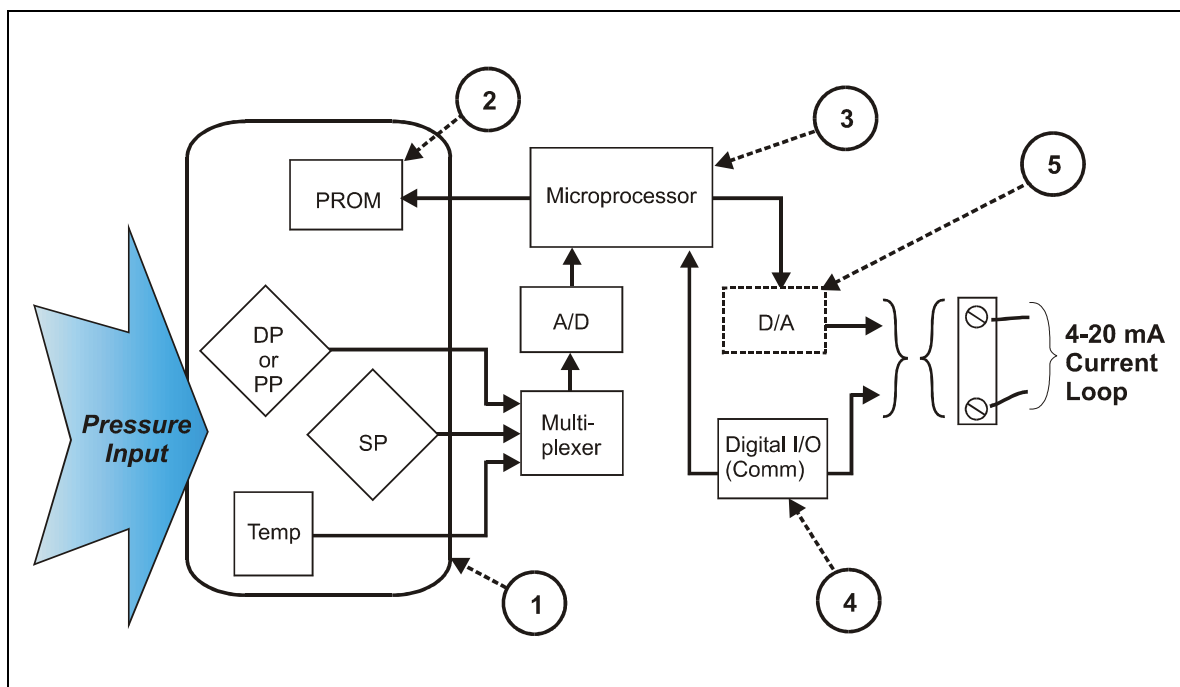
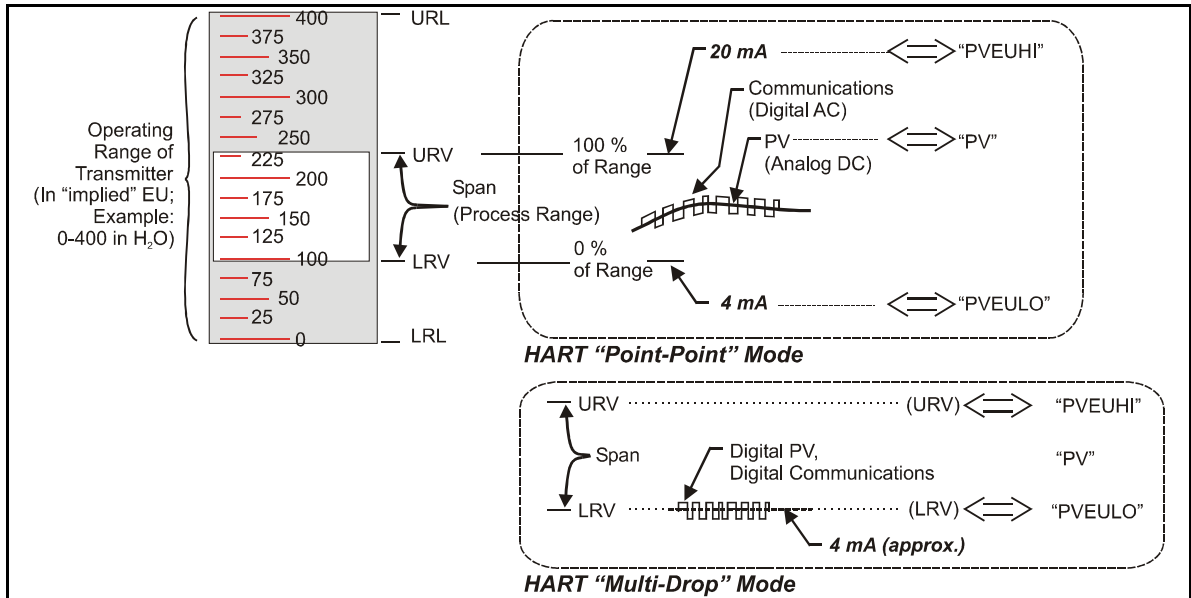

Figure 3 Honeywell ST 3000 Smart Transmitter - Analog mode
Figure 7 HART Point-point and Multi-Drop Value Scaling
The characteristics of a typical Honeywell Smart Pressure Transmitter are summarized in Figure 3 through Figure 7, following.
As indicated by key number ① in Figure 3, the sensor is a sealed assembly that typically includes three separate sensors: Differential Pressure (DP), Static Pressure (SP) and Temperature (Temp).
The digital-to-analog converter (D/A) shown at key number ⑤ in Figure 3 is shown as a box with a dotted line to indicate that analog output mode is a user-selectable feature, for use in an application whose receiving equipment requires an analog input.
Note that the Digital I/O (Comm) (communications) box is shown in Figure 3 with solid line to indicate that the digital communications path is available at all times, even when analog mode is selected.
As indicated in Figure 7, the output of the HART includes two primary modes: